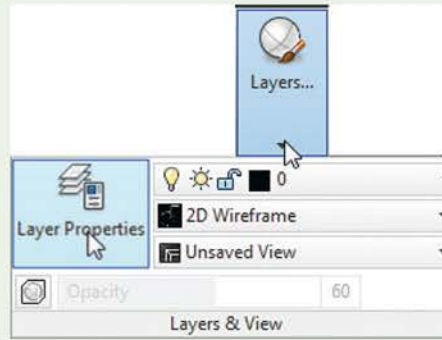

Fig. 9.4 The Layer Properties icon in the Home/Layers & View panel
- (a) *Click* the **Layer Properties** icon in the **Home/Layers** panel (Fig. 9.4).